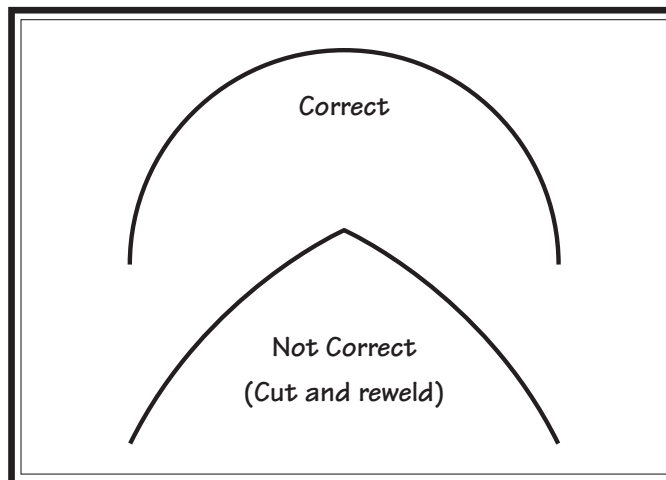

Figure 35. Correct blade weld bend for strength and flexibility.
18. Test the strength and flexibility of the weld by bending the blade in an arc similar to that of the bandsaw wheels. The blade should bend in a smooth circular, rounded shape—rather than a pointed fold (see **Figure 35**).